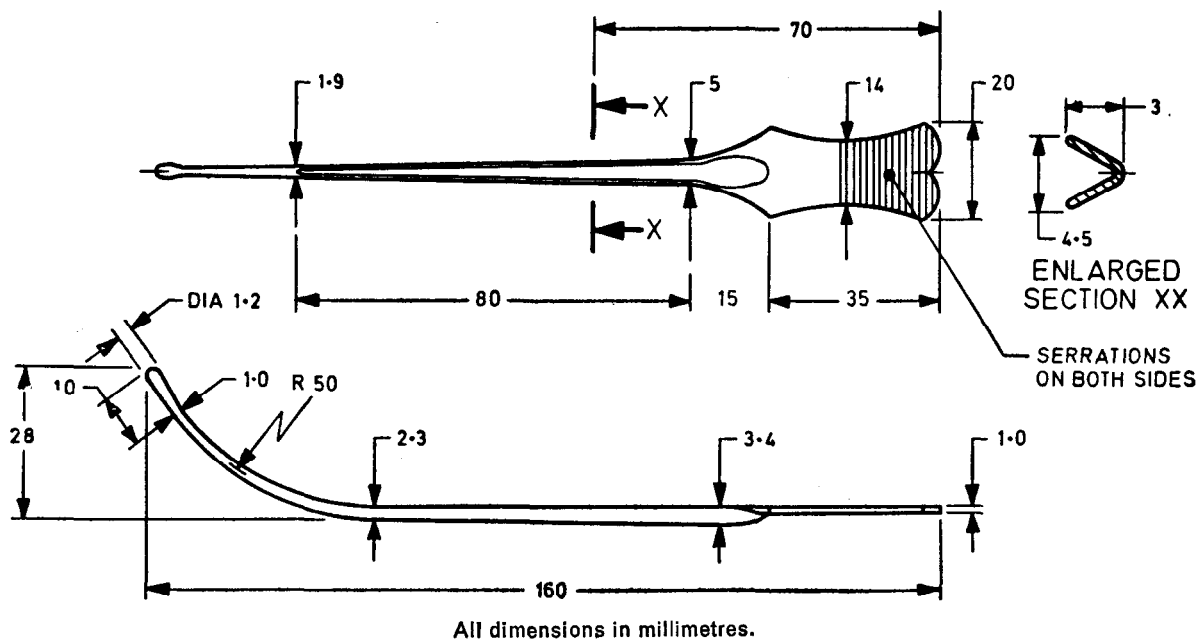

FIG. 1 GUIDE, SHIRODKAR'S PATTERN
**2. Shape and Dimensions** — As shown in Fig. 1.